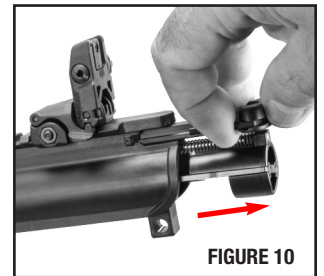

FIGURE 10
- Pull the charging handle to rear and remove bolt assembly (FIGURE 10) which includes the charging handle.